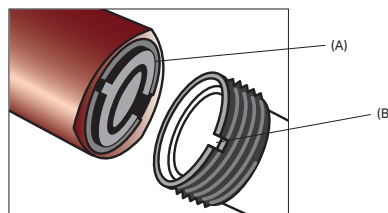

Fig 2. Adapter unit and slot on column tube threads.
- 7 Screw the guiding ring (Fig. 2, A) inside the adapter unit down to its end position so that it is level with the bottom of the adapter unit (Fig. 2). Screw the guiding ring back 1.5 turns.
8	Screw the adapter unit onto the column tube, ensuring the inner part of the guiding rings fits into the slots on the column threads (Fig. 2, B). Make sure that there are no air bubbles
1	Screw the guiding ring (Fig. 2, A) inside the adapter unit down to its end position so that it is level with the bottom of the adapter unit (Fig. 2). Screw the guiding ring back one turn.